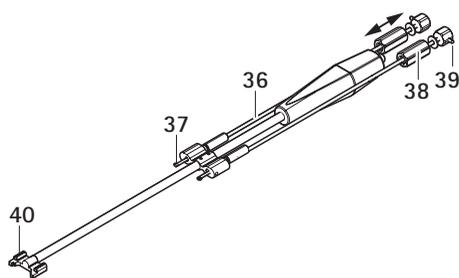

Fig. 7 Disassembling revision instruments for endplates
- ▶ Unscrew handle **39** of revision instrument, see Fig. 7.